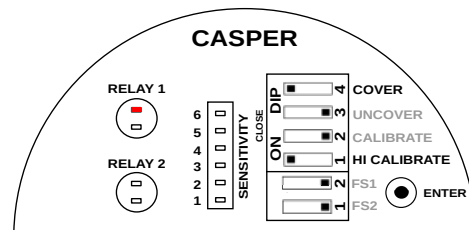

Figure 11: Cover Delay Switch Position for Relay 2
- To set the Cover Delay for Relay 2, set the COVER and HI CALIB switch to CLOSE position as shown in Figure 11.